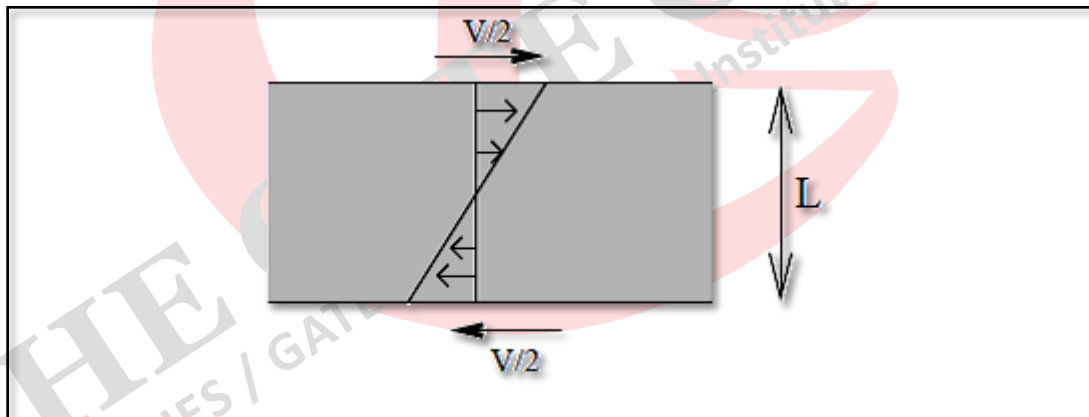

Figure 1.1: The fluid flow between two plates separated by a distance L moving with velocity $(\pm V/2)$ in the tangential direction
- **Viscosity:** The unit of viscosity can be determined from Newton's law for viscosity for a fluid between two plates separated by a distance L having a relative velocity V as in figure 1.1.